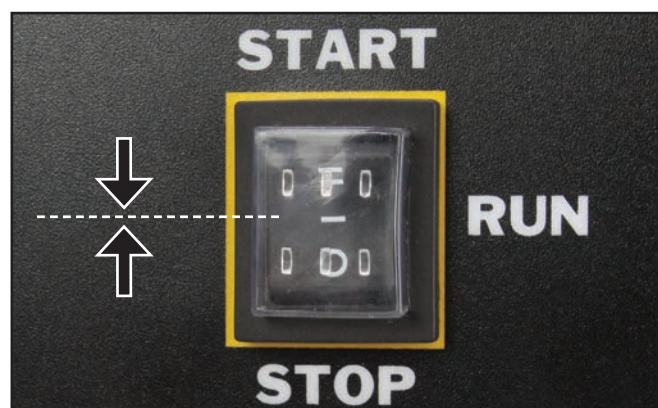

Figure 24 – Engine Control Switch in the RUN Position
5. Push and hold the engine control switch in the **START** position until the engine starts. Once the engine starts, release the engine control switch; the switch will automatically move into the central **RUN** position (see *Figure 24*).